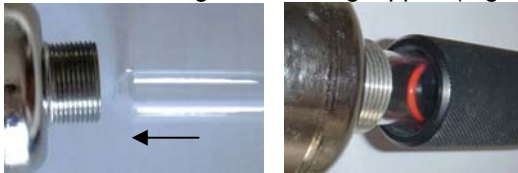

Fig. 2
- Then insert the domed end of the quartz, with the sealing nut attached, into the chamber through the sealing nipple. (Fig. 2)